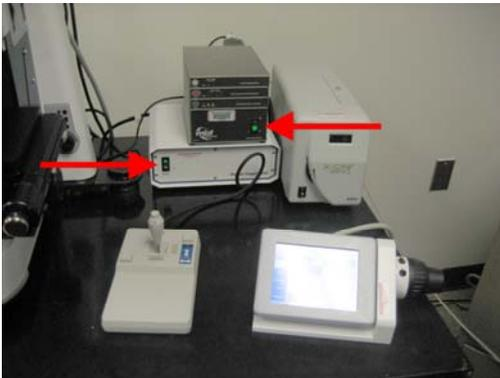
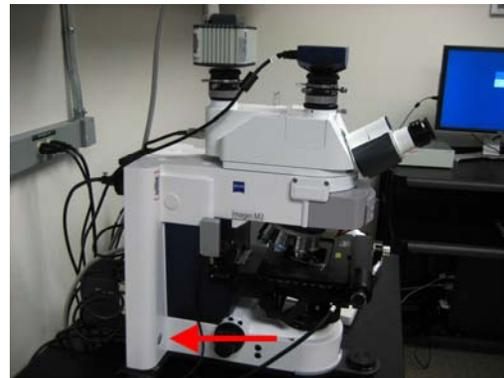

Fig 3
Fig 4
2. Next, turn on the stage controller (fig 3) and the microscope. The microscope has two power switches, one on the external power supply (fig 3) and one on the left side of the base of the microscope (fig 4). Note: If you are collecting brightfield images, the brightfield camera will turn on when the computer is turned on.
4. Turn off the Hamamatsu fluorescent camera power supply (fig 2) and microscope external power supply and stage controller (fig 3).